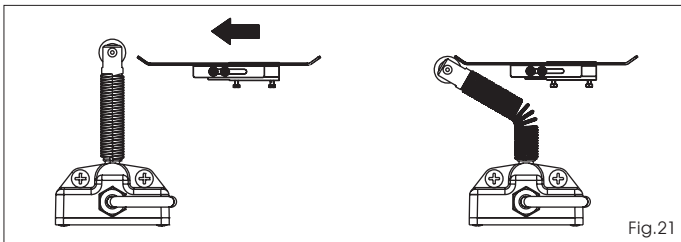

Fig.21
- a) The plate must activate the limit-switch on the profiled part as shown in figure 21.